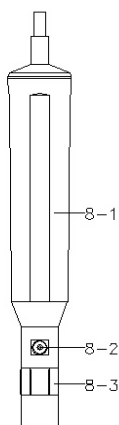

Fig. 2
- 1) Unscrew the " Probe head " (8-3, Fig 2).
- 4) Screw the " Probe head " (8-3, Fig 2) into the probe body.